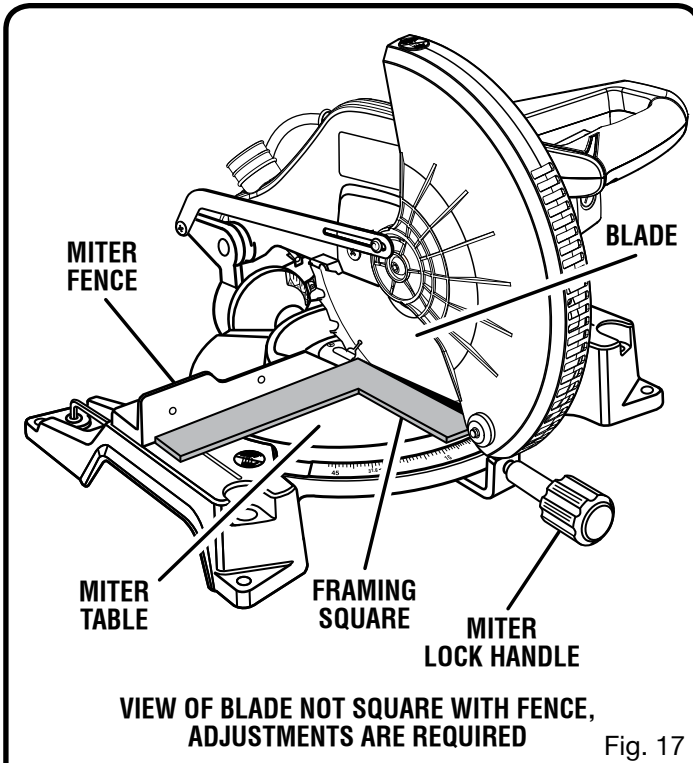

Fig. 17
- If the front or back edge of the saw blade angles away from the square as shown in figures 17 and 18, adjustments are needed.